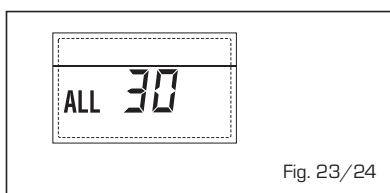

Fig. 23/24
**- ANOMALIA Sonda DESCARGA CASCATA "ALL 31" (fig. 23/25)**